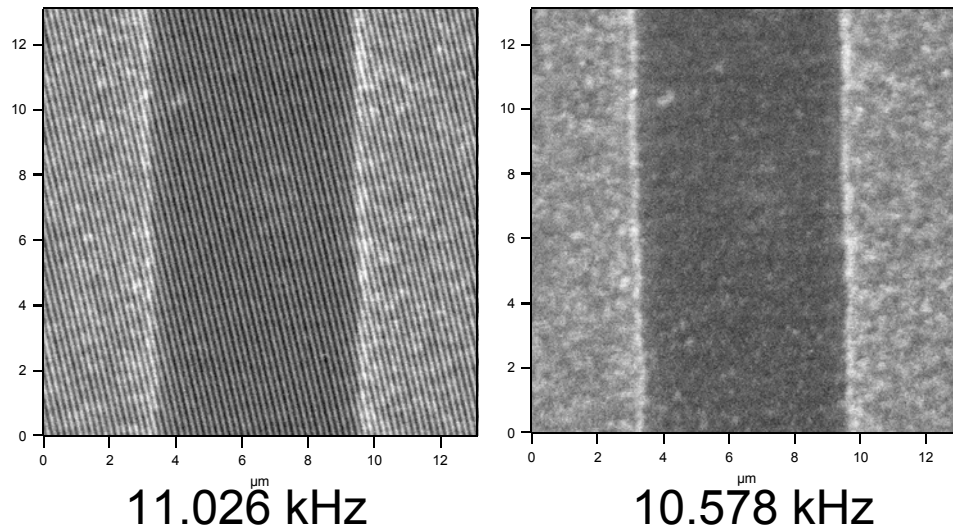

Figure 6.2.7: Monitoring the Phase image while changing the Drive Frequency on the fly.
- ✓ Additionally, aside from adjusting normal tuning imaging parameters, the Drive Frequency can be adjusted with the 'Hamster' wheel until the 'sweet spot' is found. Figure 6.2.7 shows the results of changing the Drive Frequency on the fly to find the 'sweet spot'. During parameter tuning, monitor the image quality in the height and phase images, as well as the scan traces below the height image. The Phase image can be monitored for noise as seen in the left image. A slight adjustment reduces this noise for better image quality. *The image is of a patterned protein (lighter color), and poly ethylene glycol terminated thiolate (dark region).*